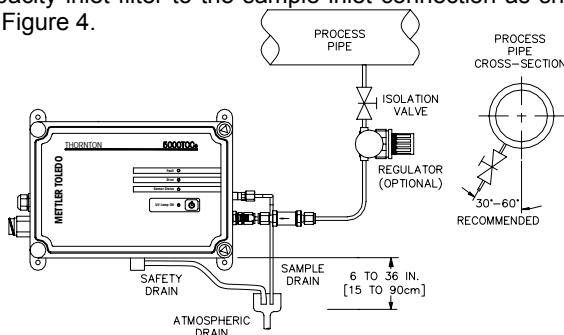
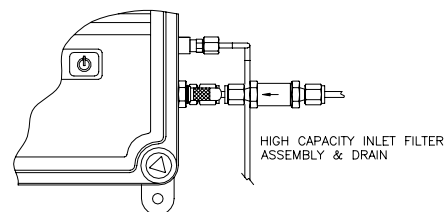

Figure 2
Figure 4
1. Sensor installation - The 5000TOCe Sensor is designed to be mounted in a variety of installation applications: Wall-mounted, pipe-mounted, and bench-top. The sensor is shipped with mounting tabs installed that can be removed for bench-top installation. A minimum clearance dimension of 18" (45.7 cm) is required on the left side of the sensor for UV lamp change-out. Two plumbing connections are provided on the right side of the enclosure. The lower connection is labeled 'Sample Inlet' and the upper connection 'Sample Outlet'. A third connection, a safety drain, is located on the bottom of the enclosure. For benchtop installations, this drain connector must be removed. Figure 2 shows a typical installed configuration. The installation kit (P/N 02205) includes installation tube assemblies and a high capacity inlet filter. Attach the high capacity inlet filter to the sample inlet connection as shown in Figure 4.
Connect the 0.125" (3 mm) PTFE tubing to a sample point isolation valve (not supplied). Warning: For inlet pressure above 85 psi (5.9 bar), a pressure regulator (Thornton p/n 58 091 552) is required. Flush sample tubing before installing at the sensor. Close the isolation valve. Attach the other end of the PTFE tubing to the high capacity inlet filter. In applications with high ambient humidity, irregular flow rates, high temperature water or water with significant changes in water temperature resulting in internal condensation, we recommend installation of the Sample Conditioning Coil (included). – See the 5000TOCe Instruction Manual for installation procedure. Connect the stainless steel drain tube (Thornton p/n 58 091 553) as shown in Figure 4. The 0.31" (8 mm) safety drain tubing connects to the tube fitting on the bottom of the enclosure and should also be directed to an atmospheric drain. See Figure 2 for dimensional restrictions regarding drain tubing.